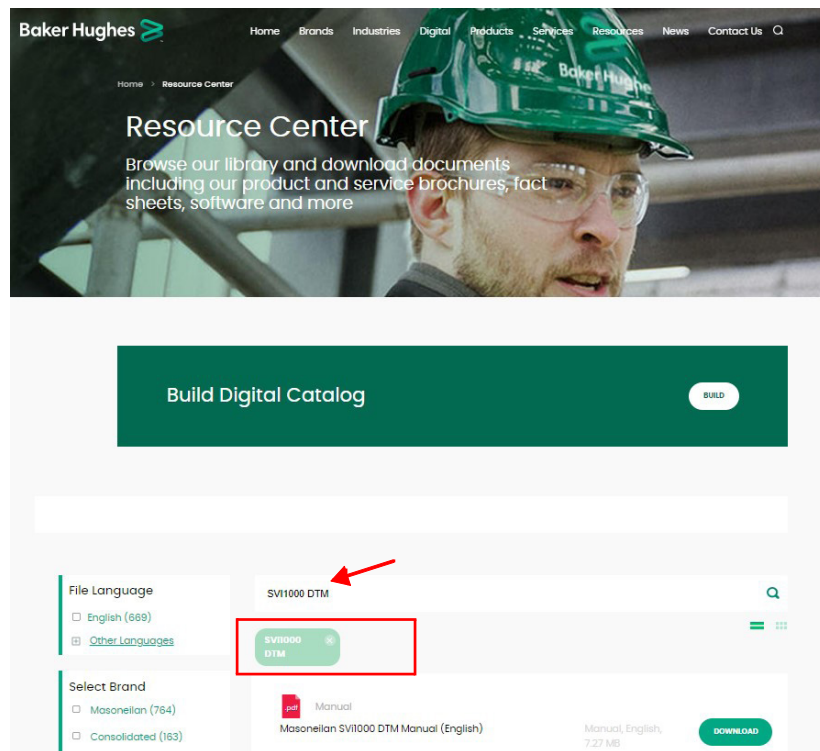

Figure 10 - Resource Center: Search for SVi1000 DTM
1. Go to the *Resource Center* (<https://valves.bakerhughes.com/resource-center>) and enter *SVi1000 DTM* in the search field (red arrow in Figure 10).
The results appear (red box in Figure 10).